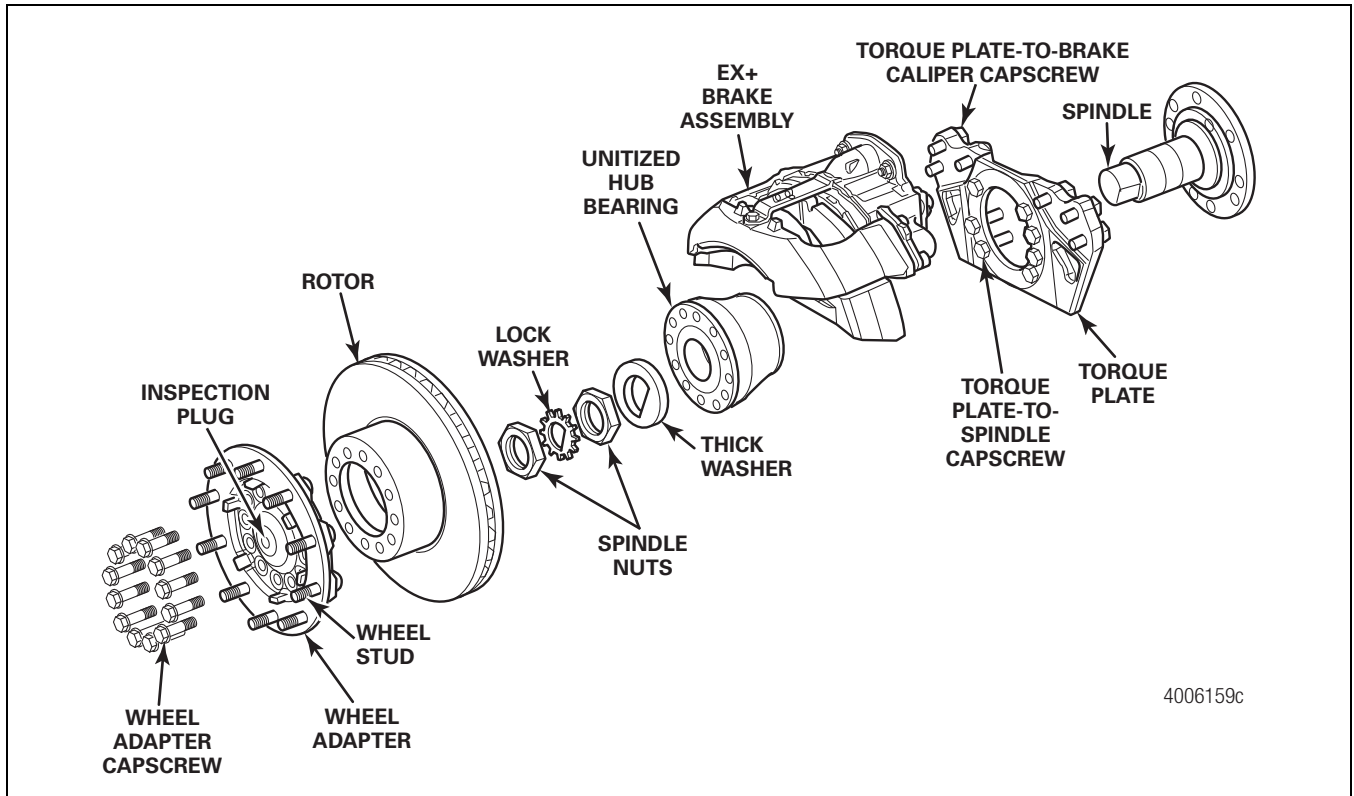

Figure 4.7
4. Remove the wheel adapter and rotor. Inspect the rotor for cracks and signs of wear. Replace the rotor if necessary. Figure 4.7.